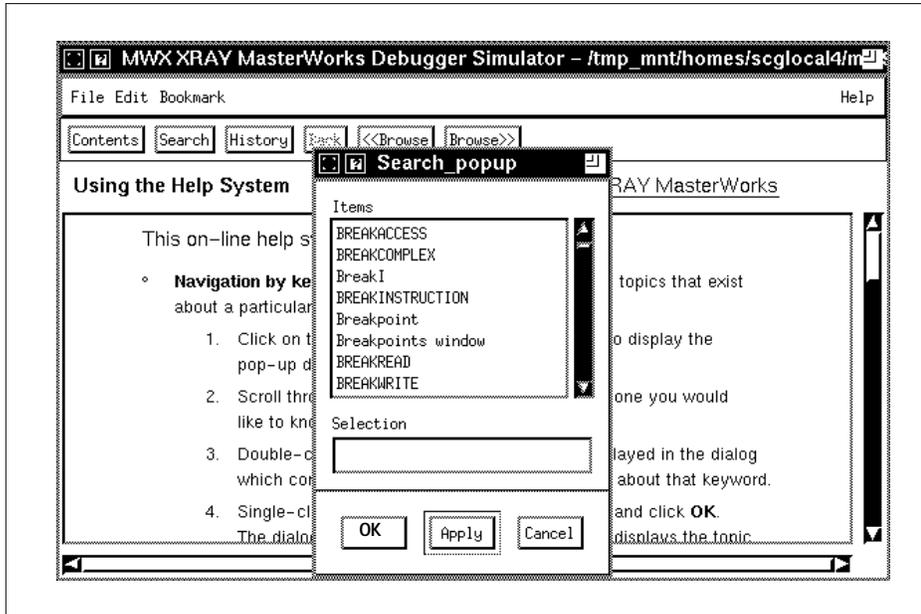

Figure 4-12 Help and Search Windows
3. Select the Search button as shown in Figure 4-12 on page 4-20.